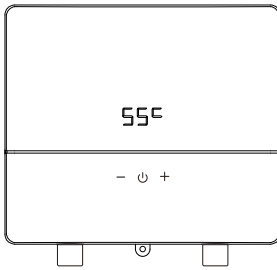
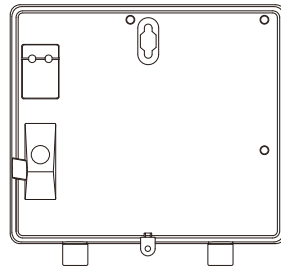

Figure 1
Figure 2
Step 1: Front (Figure 1) and back (Figure 2) of the appliance.